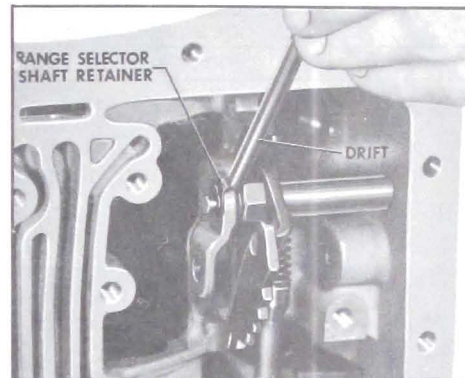

Figure 5-283
9. Install range selector shaft retainer. See Figure 5-283.